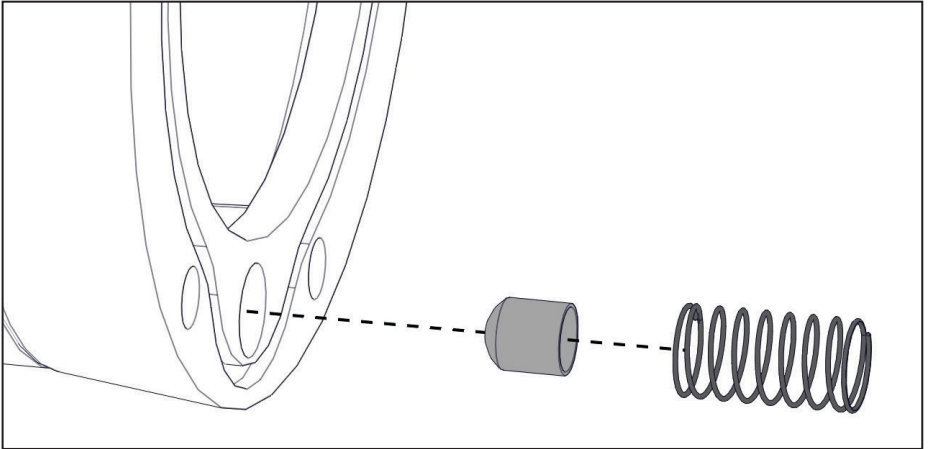

Figure 56 — Install thimble screen and spring
- ☐ Install the new thimble screen and spring (Figure 56).